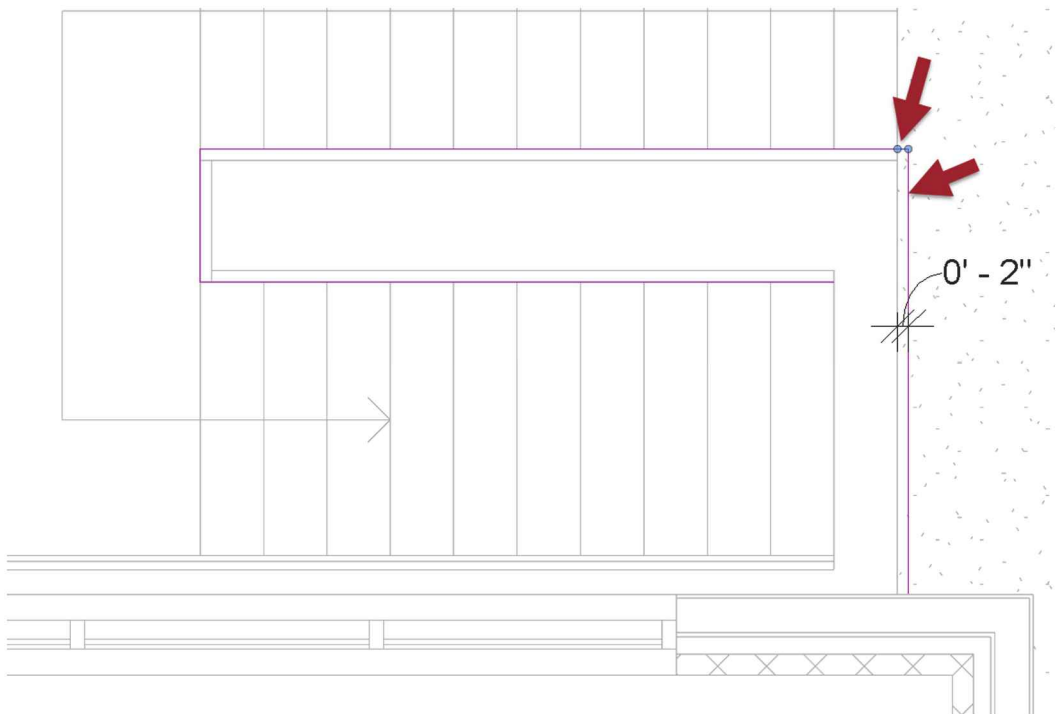

FIGURE 7-8.7 Editing the path of the inner railing
15. Select the inner railing, hosted on the stair, and edit its path as shown in Figure 7-8.7.